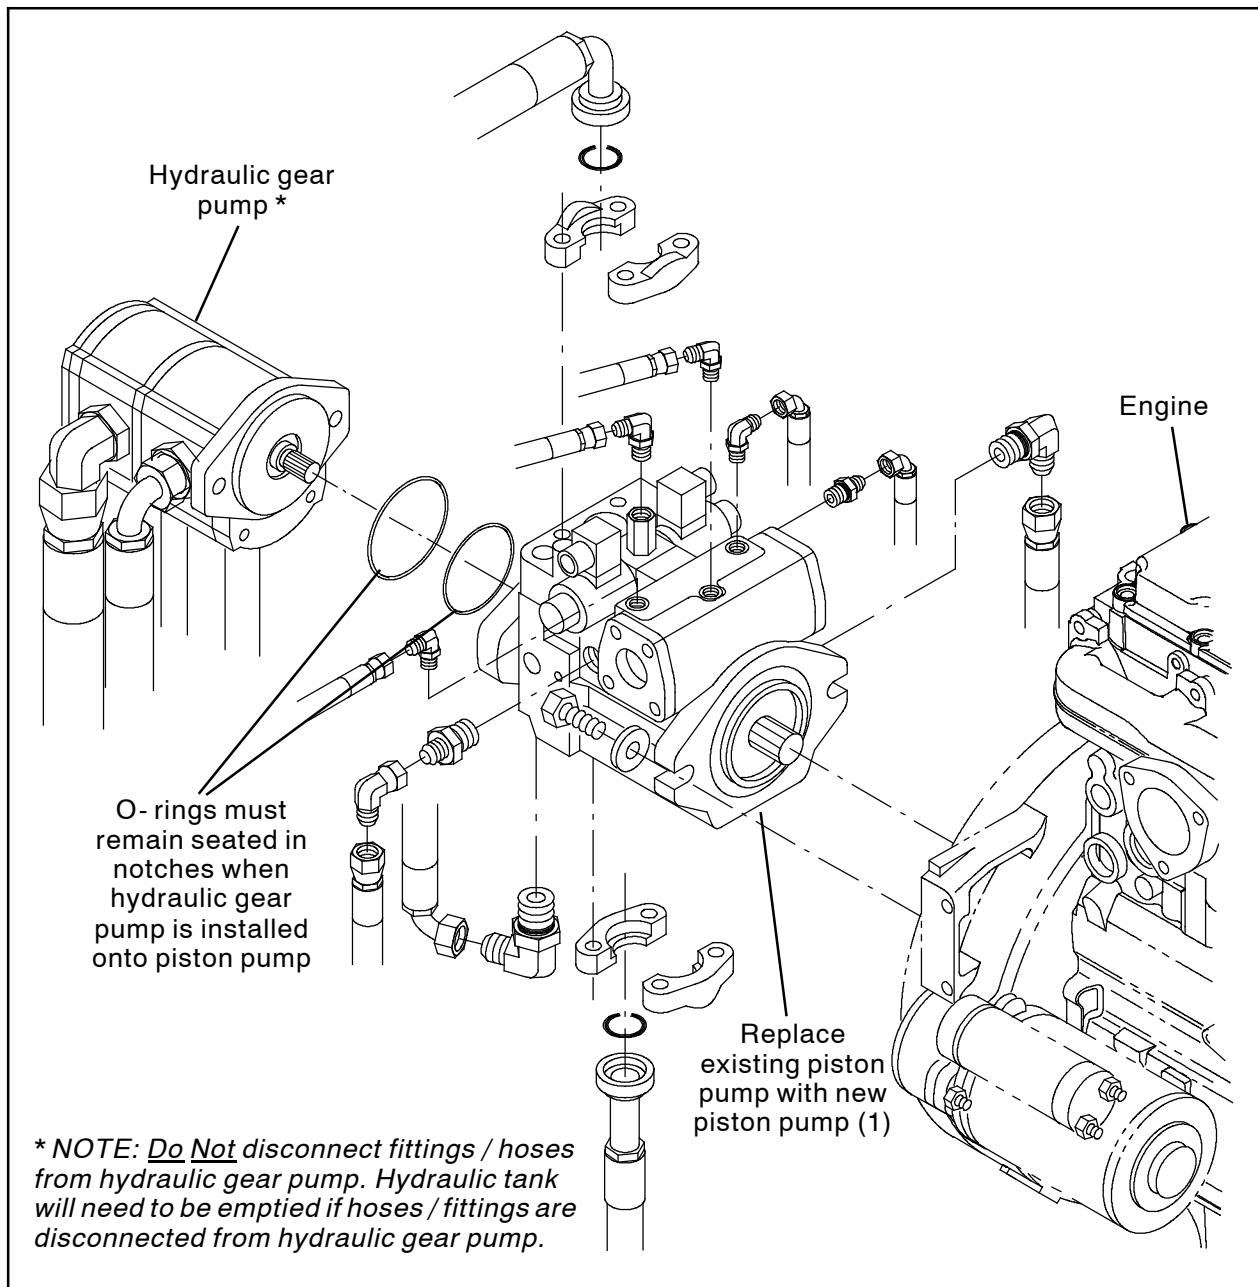

FIG. 1
1. Remove THE HARDWARE SECURING the hydraulic gear pump to the piston pump. Set the removed hardware aside. (Fig. 1)
2. Carefully remove the hydraulic gear pump from the piston pump and move the hydraulic gear pump aside. (Fig. 1)
3. Disconnect all hydraulic hoses from the piston pump. (Fig. 1)
5. Remove the piston pump from the engine. Set all mounting hardware aside. (Fig. 1)
6. Remove all fittings from the removed piston pump. Set the removed fittings aside. Discard the piston pump.(Fig. 1)
7. Install the fittings removed from the old piston pump in the previous step onto the new piston pump (1). (Fig. 1)
8. Install the piston pump (1) onto the engine. (Fig. 1)
12. Install the hydraulic gear pump onto the piston pump (1). Be sure the o-rings remain seated in the notches when installing the hydraulic gear pump onto the piston pump. (Fig. 1)